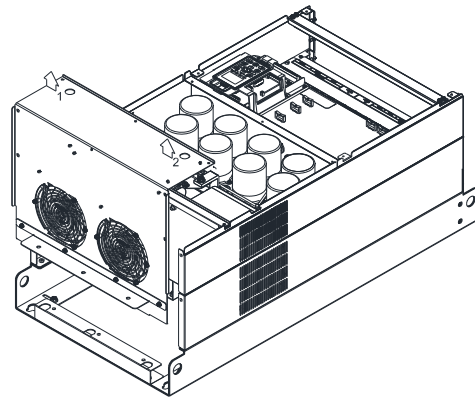

Figure 4
5. Lift the fan by putting your finger through the protective holes, as indicates in 1 and 2 on the figure 4.